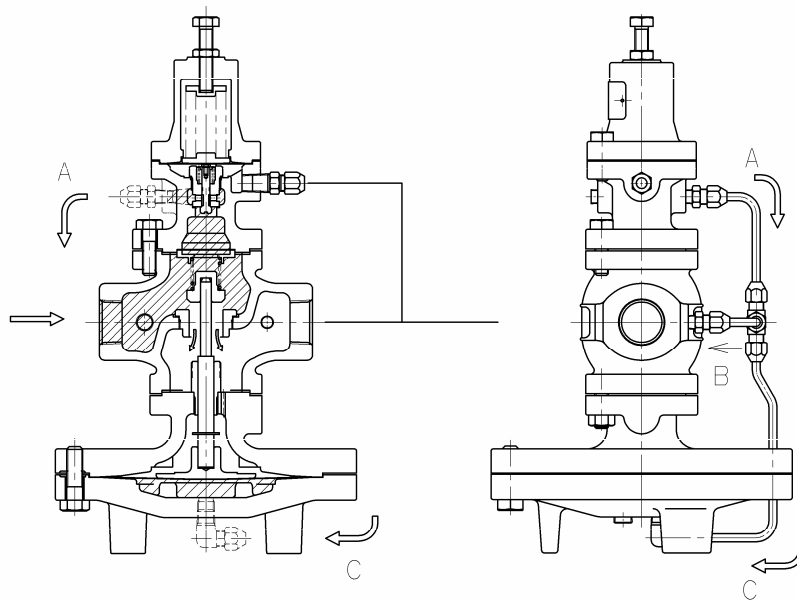

Fig. 3
- (3) When the flow rate at the pilot valve exceeds the flow rate at the orifice, operating pressure in the main diaphragm chamber raised and overrides the pressure on the upside of the main valve and the load of main valve spring [13] to open the main valve. The fluid then begins to flow from the inlet side. (**Fig. 3**)